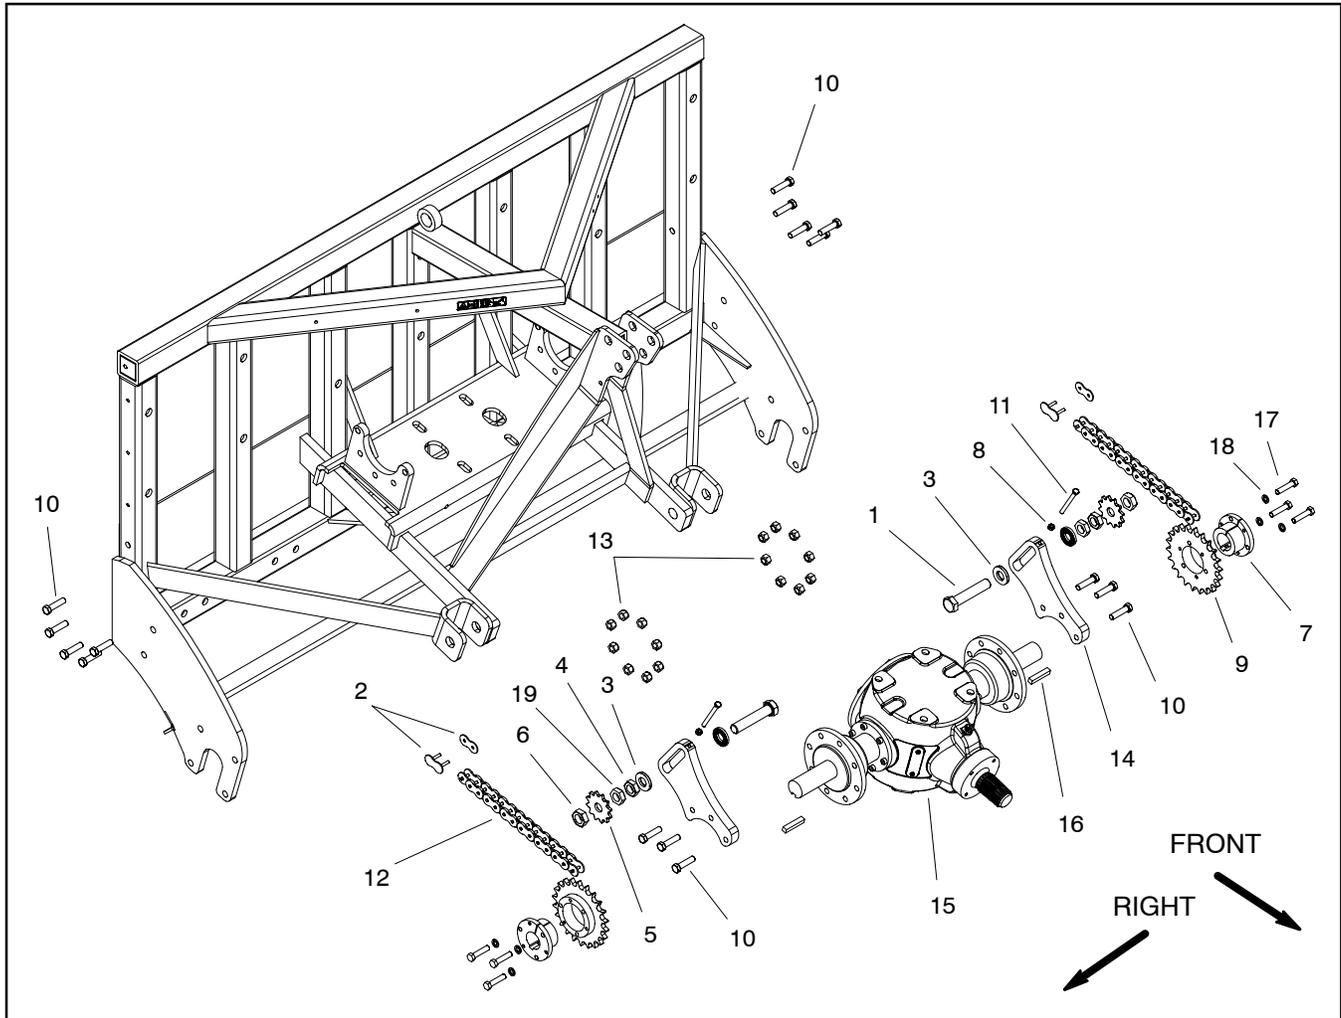

Figure 14
Disassembly (Fig. 14)
8. If necessary, remove idler assembly using Figure 14 as a guide.
Assembly (Fig. 14)
3. If idler assembly parts were removed from frame, install idler components using Figure 14 as a guide. Do not fully tighten inner jam nut (item 4) at this time.